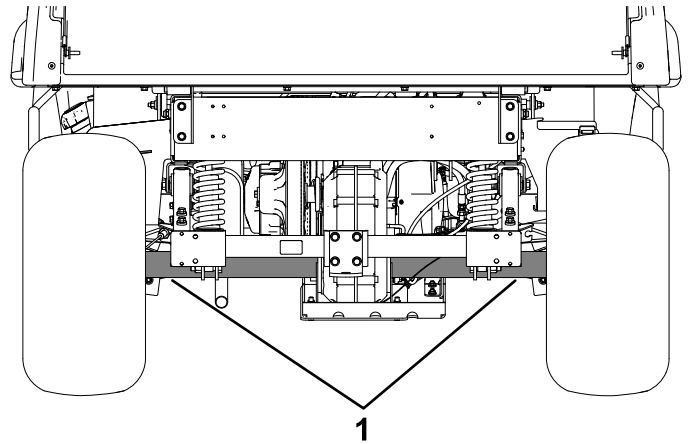
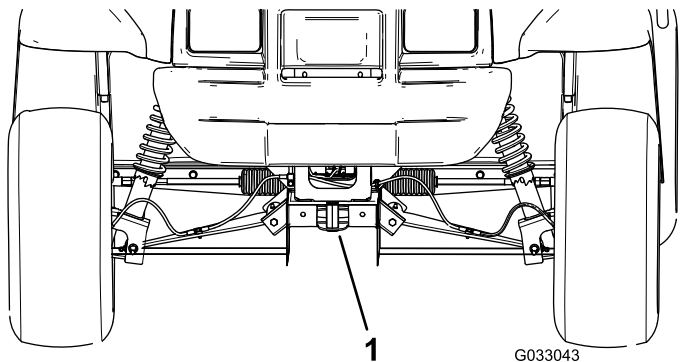

Figure 18
Figure 17
Refer to Figure 17 and Figure 18 for the tie-down locations on the machine.
2. Affix a tow line to the tongue at the front of the machine frame (Figure 17).